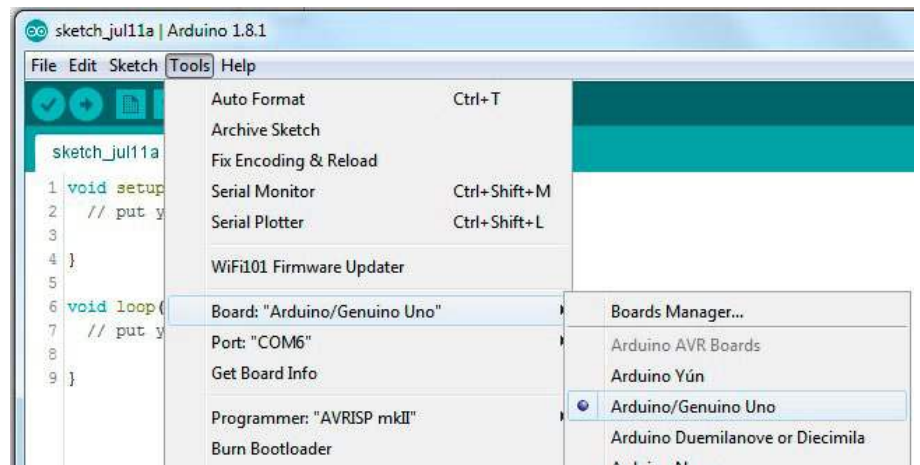

Figure 6. Selecting the Compatible Microcontroller Board
5. Select the correct Arduino compatible microcontroller board. Under the **Tools** menu, select **Board** → **Arduino/Genuino Uno** with the “•” black dot symbol (see Figure 6).